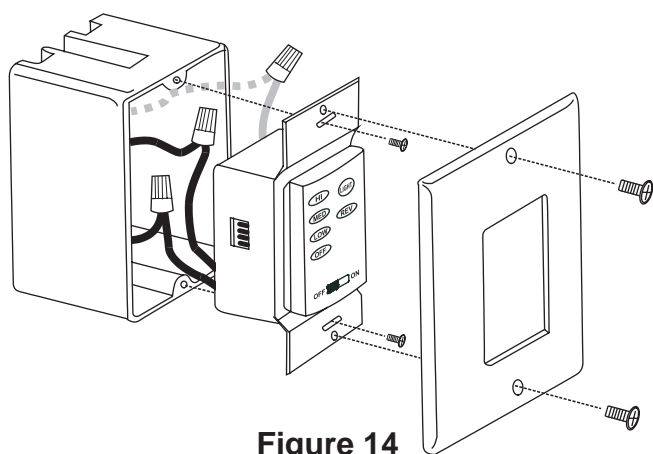

Figure 14
Step 3. (Fig. 14) Carefully tuck the wire connections inside the junction box. Secure the wall transmitter with the two screws provided. Attach the wall plate over the wall transmitter and secure with the two screws provided.